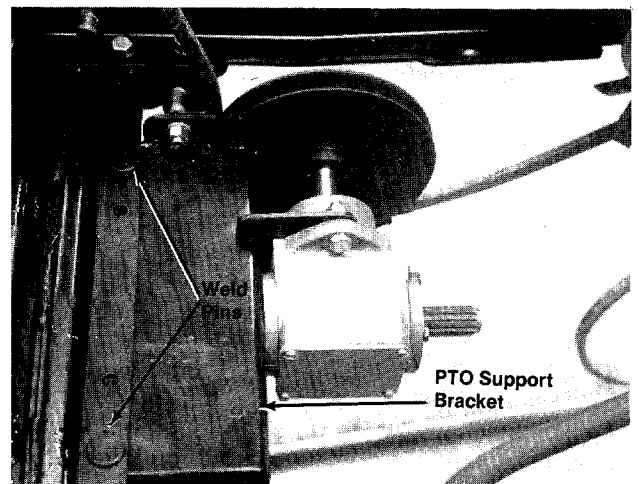

FIGURE 10.
1. Place the PTO assembly in back of the front axle and hook the top slotted hole on the PTO support bracket over the weld pins on the tractor. Tighten nuts finger tight. See figure 10.